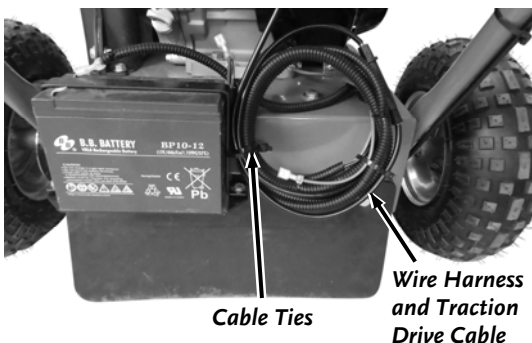

Figure 7
6. Cut the Cable Ties securing the Wire Harness and Traction Drive Cable to the rear of the machine (**Figure 7**).